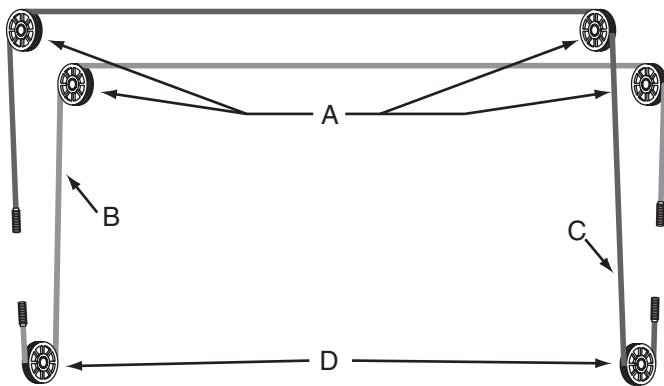

Fig. 18 Detail
- B) Refer to Fig. 18 for the general cable arrangement. First, run a cable end up through the small hole in the lower tie-off plate, Fig. 19.